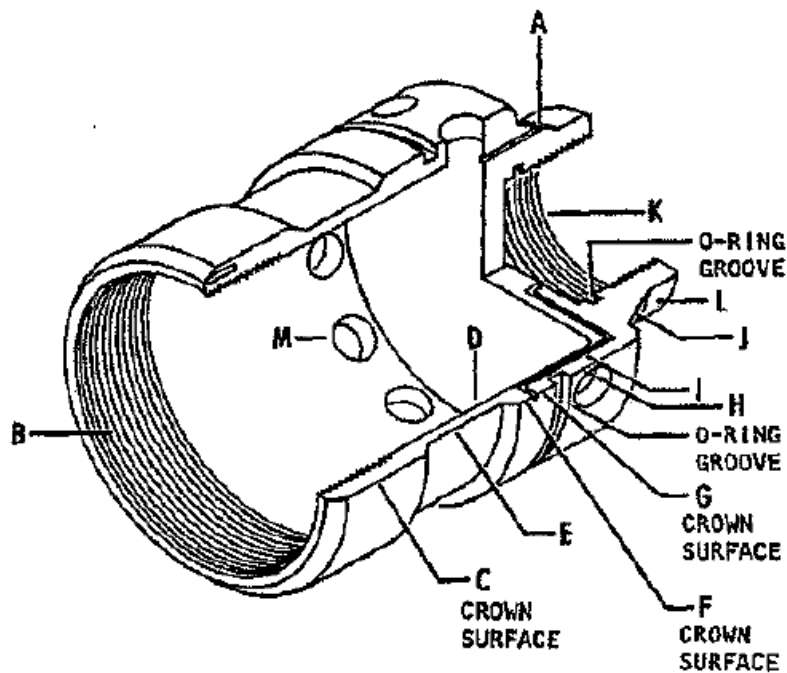

Figure 5
8. Ballistic Actuator Piston	25-66904 (Fig 5 Zones G and D)
2. Ballistic Actuator Piston	25-66904 (Fig 5 All areas not chrome except B and K)